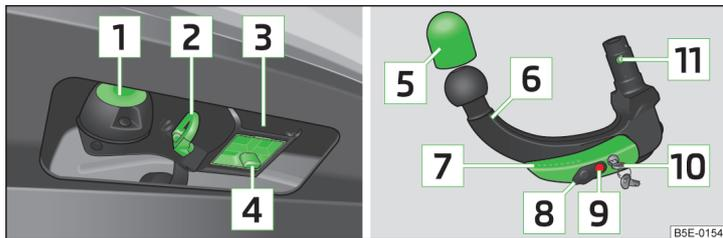

Fig. 155 Carrier for the towing device / tow bar
Support for the towing device and tow bar » Fig. 155
- ▶ Pull cap **4** » Fig. 155 on page 167 downwards.
- Place the cap **4** » Fig. 155 on page 167 onto the mounting recess.